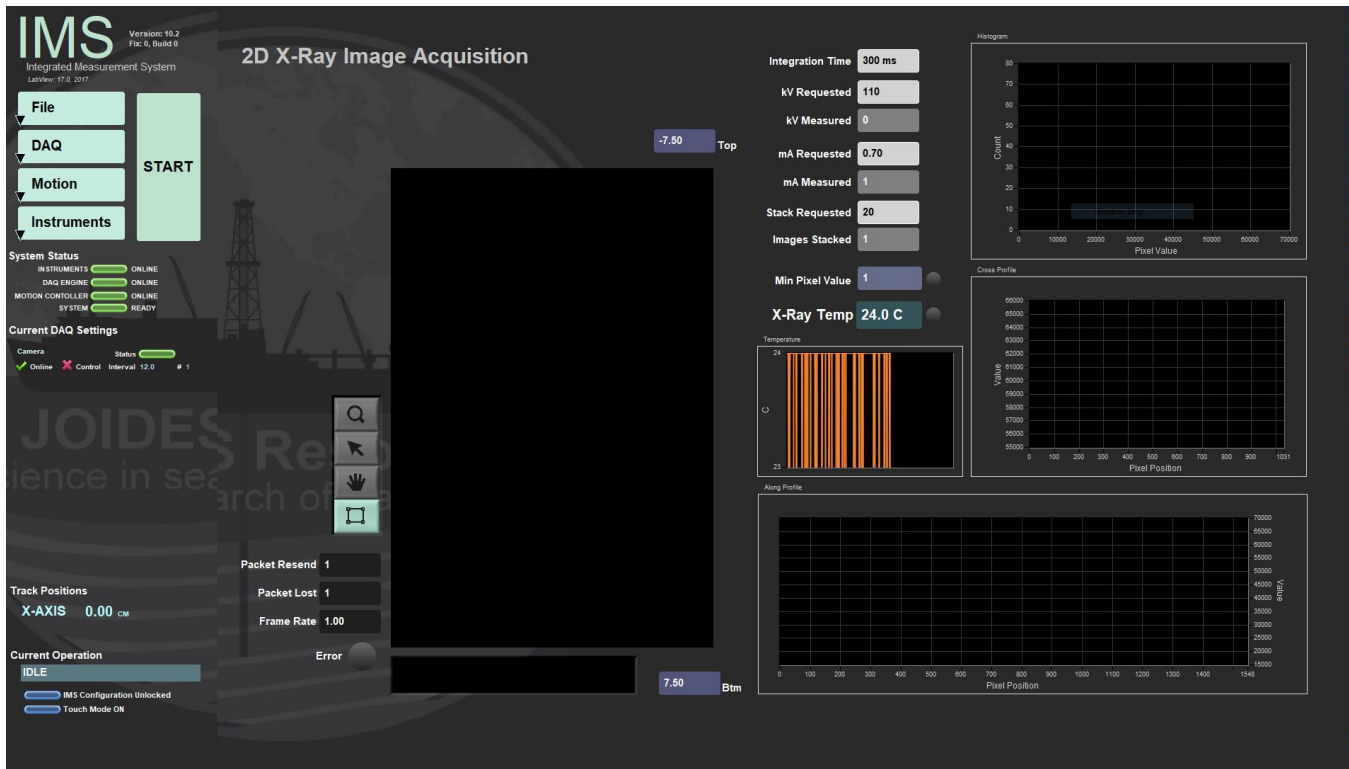
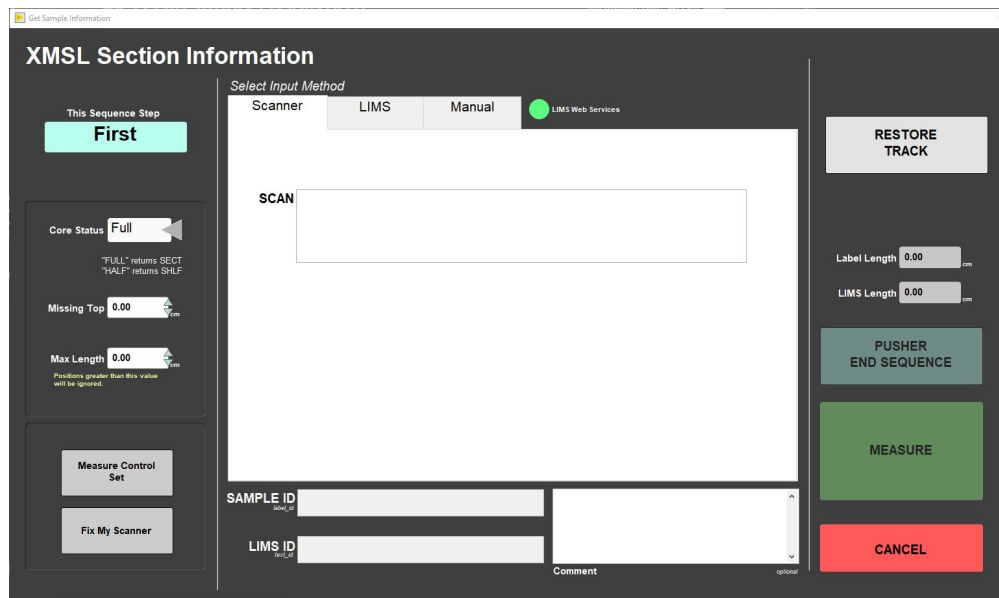

Figure 2- XMSL IMS Main Window
Figure 4- Sample Information Window- Scanner entry (left), LIMS entry (middle), and Manual Entry (right).
After successful initialization, the main IMS-XMSL window will appear (**Figure 2**).
Click **START** on the IMS panel (**Figure 2**) to open the sample information window (**Figure 4**). This is where the user enters the sample ID for a section and initiates the measurement. There are three tabs available on the sample information screen. Each provides a different method for entering the sample ID information.
1. Select **START** on the IMS panel (**Figure 2**) to open the sample information window (**Figure 4**).